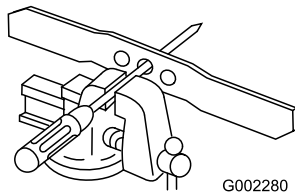

Figure 26
8. Use your finger to coat the gasket on the new oil filter with oil (Figure 26).
1. Check the balance of the blade by placing the center hole of the blade over a nail or screwdriver shank clamped horizontally in a vise (Figure 26).